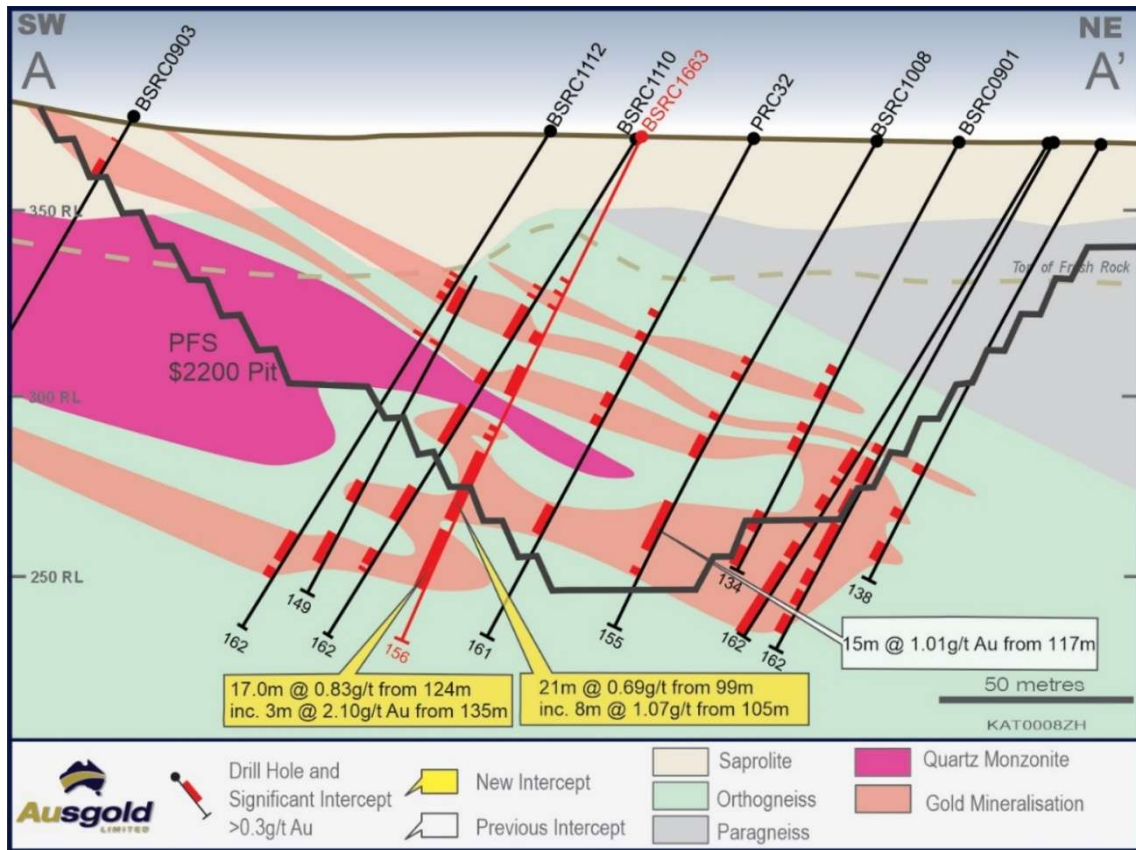

Figure 3 – Cross-section A-A' across Jinkas and White Dam Lodes highlighting Resource Definition hole BSRC1663
- 21m @ 0.61g/t Au from 99m including 8m @ 1.07g/t Au from 105m in BSRC1663 (Figure 3)
- 17m @ 0.83g/t Au from 124m including 2m @ 1.89g/t Au from 129m in BSRC1663 (Figure 3)